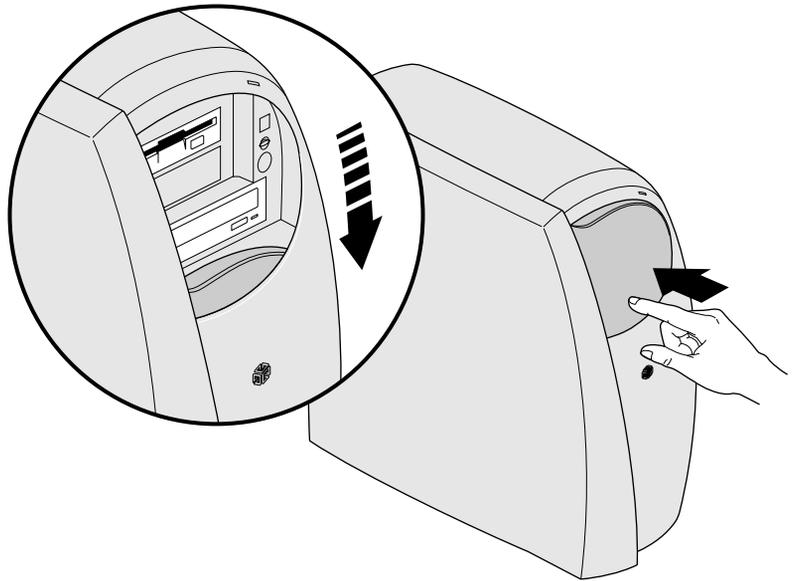

Figure 1-8 Opening the Sliding Front Panel
- To open the sliding front panel, press lightly on the lower half of the panel, as shown in Figure 1-8.
2. Open the sliding front panel of the system by pressing lightly on the lower half of the panel, as shown in Figure 1-8.
3. If it’s not already open, open the sliding front panel of the system by pressing lightly on the lower half of the panel (Figure 1-8).
1. Press on the sliding front panel to open it. (See Figure 1-8.)